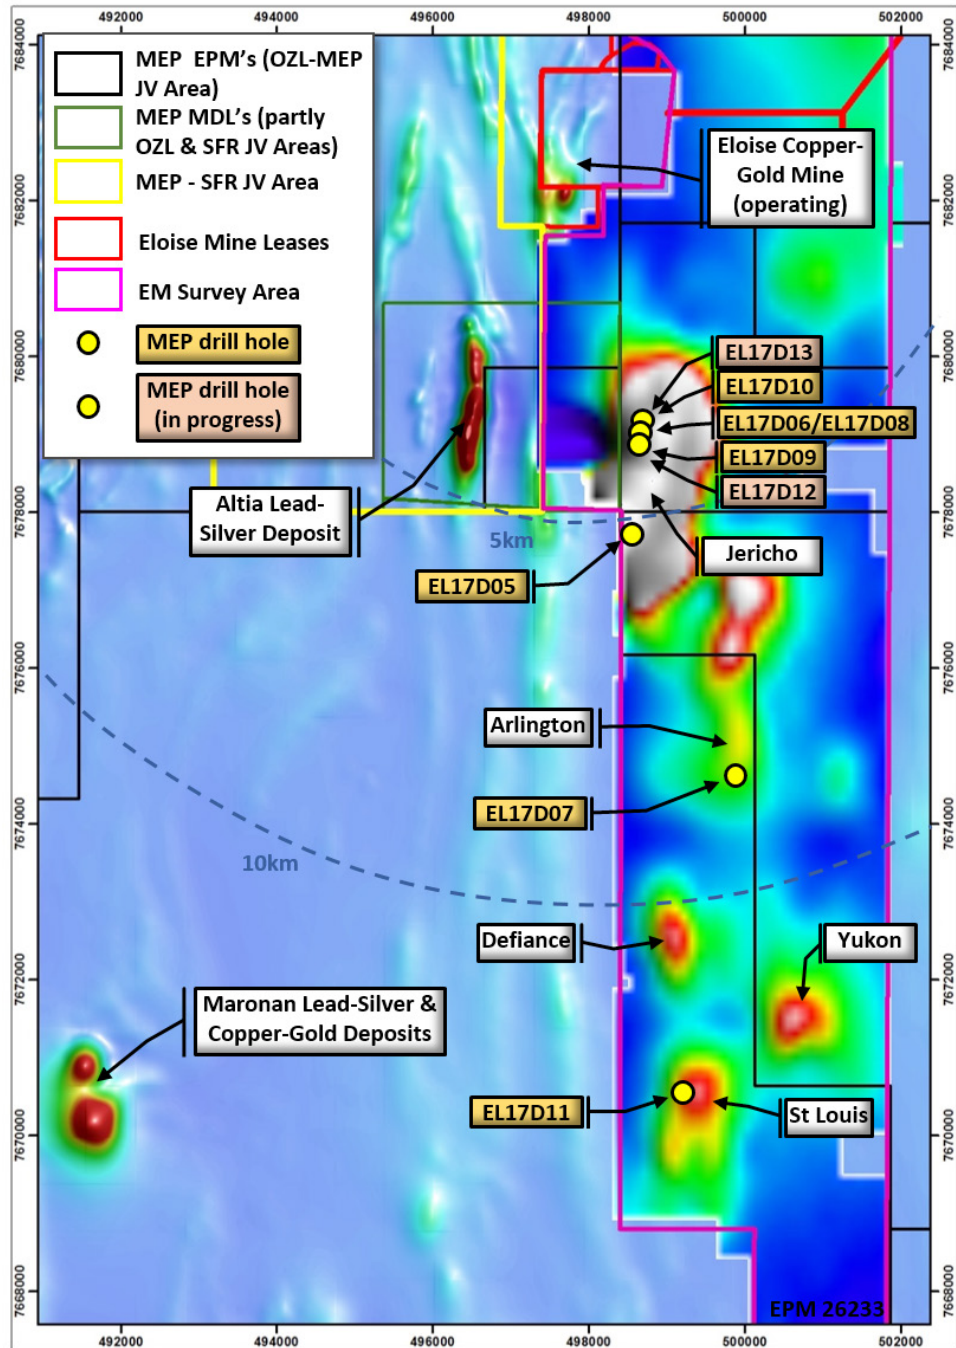

Figure 1: Priority drill targets south of Eloise mine; EM image is Z component, channel 30 over magnetics with drill holes completed and in progress
Minotaur Exploration Ltd (ASX: MEP, 'Minotaur') provides a drilling update for the Eloise JV, northwest Queensland. Three additional holes at Jericho and one hole each at Arlington and St Louis are complete, all testing electromagnetic (EM) anomalies located 5-13km south of the Eloise copper-gold mine (Figure 1).
Arlington comprises a multi-plate anomaly up to 2.5km in length (Figure 1), modelled with a depth-to-top of 300-450m below surface. Drill hole EL17D07 was completed at 634.8m testing the central part of the anomaly. Pyrrhotite was intersected in two main zones along the hole. An upper portion of pyrrhotite occurs over 388-437m with only trace chalcopyrite. The lower zone of weaker pyrrhotite occurs 538-546m with only trace chalcopyrite. The modelled EM target was at 545-560m downhole and the quantity of sulphide intersected may not be adequate to explain the anomaly. A 10m wide fault zone intersected at 555m may have had an influence; the hole has been cased with PVC for downhole EM.
The Eloise JV is seeking Eloise-style copper-gold and Cannington-style silver-lead-zinc mineralisation, with both styles evident in the well-endowed mineral camp around the Eloise, Altia and Maronan deposits (refer to Figure 1).